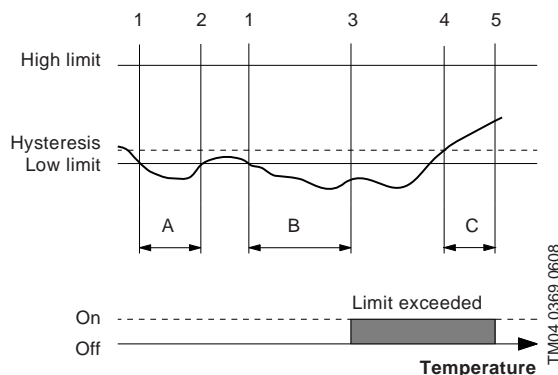

Fig. 35 Example of low limit exceeded
This is a monitoring function offering information, warning or alarm when a low or high limit is exceeded. See fig. 35.
The detection delay timer starts when a limit is exceeded (1). See fig. 35. The time is configurable.